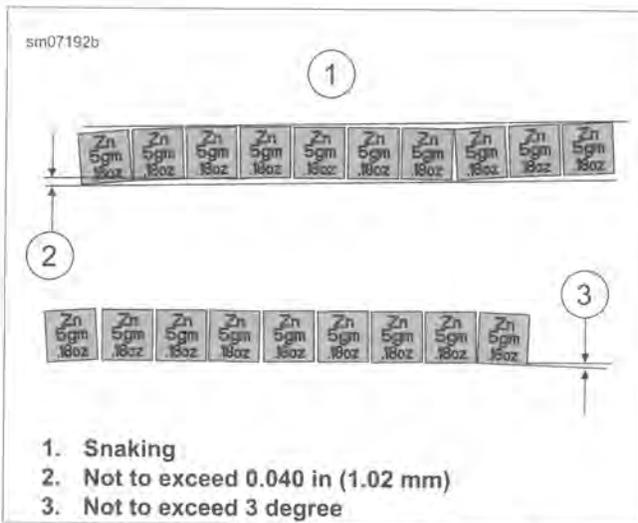

Figure 2-42. Weight Segment Alignment
See Figure 2-42. When installing wheel weights, consider cosmetics. Keep snaking (1) within 0.040 in (1.02 mm) (2) of straight. Also keep the angle alignment of individual segments (3) within 3 degrees.